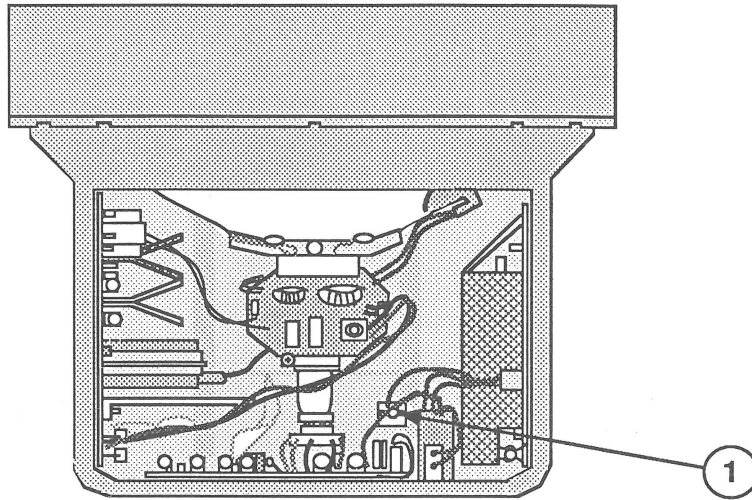

FIGURE 13
4. Lower the green grounding wire onto the metal post and replace the hex nut and washer (Figure 13, #1).